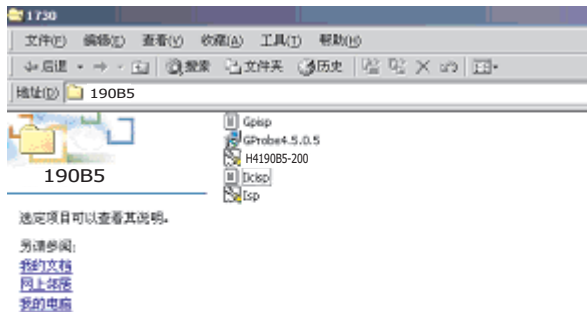

Fig.3
step 3.Unzip ISP.ZIP into your folder as shpwn in Fig.3